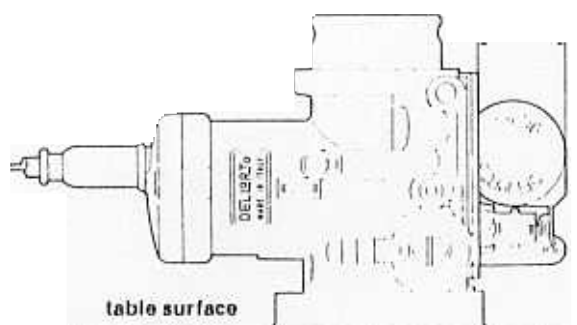

fig. 13
- for connected floats, hold the carburettor body in the position shown in fig. 13 and check that the float is at the correct distance from the carburettor body face as specified in the table.